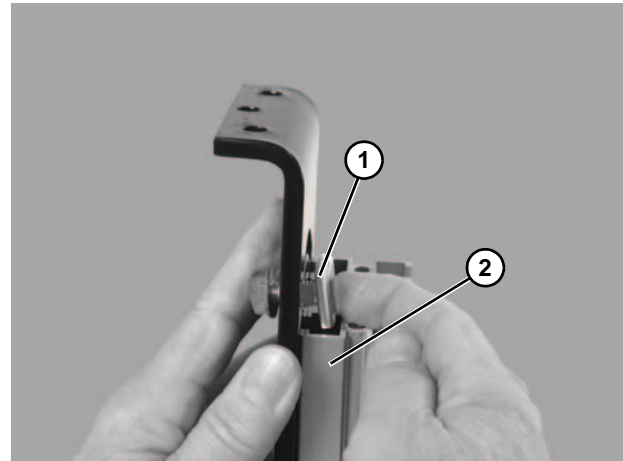

Figure 7
9. Align nuts (**Figure 7, item 1**) with inside t-slots on leg assembly (**Figure 7, item 2**). Slide nut into t-slot.